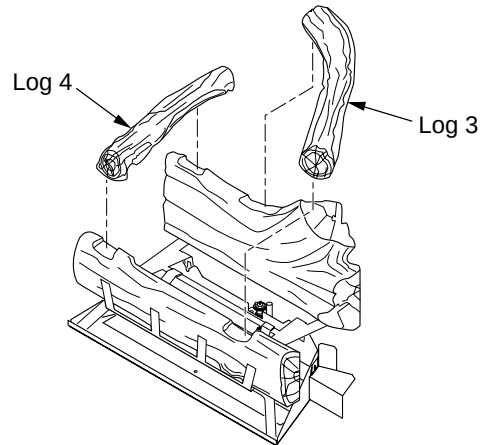

Figure 26 - Installing Logs 3 and 4
3. Place log 3 into notches on left side of logs 1 and 2 (see Figure 26).
4. Place log 4 into notches on right side of logs 1 and 2 (see Figure 26).